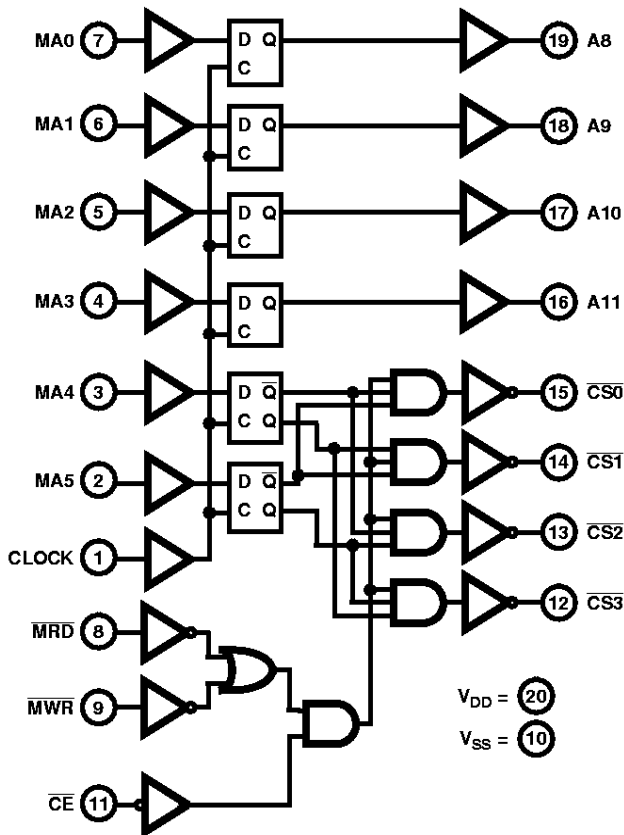

FIGURE 1. FUNCTIONAL DIAGRAM FOR THE CDP1881C
**Dynamic Electrical Specifications** at  $T_A = -40^\circ\text{C}$  to  $+85^\circ\text{C}$ ,  $V_{DD} \pm 5\%$ ,  $t_R, t_F = 20\text{ns}$ ,  $V_{IH} = 0.7 V_{DD}$ ,  $V_{IL} = 0.3 V_{DD}$ ,  $C_L = 100\text{pF}$ , (See Figure 1)
(See Figure 1) (Continued)